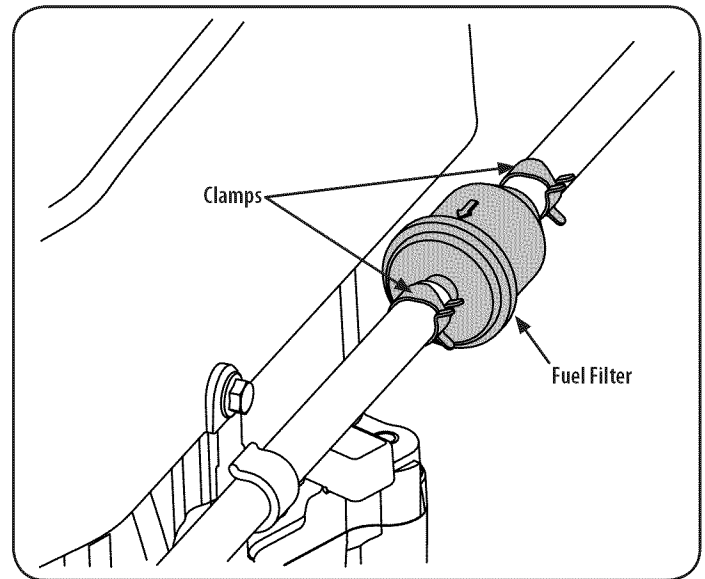

Figure 29
1. Locate the fuel filter, which is routed on the right side of the engine between the fuel tank and the engine. See Figure 29.
2. Use pliers to squeeze tabs on the clamps, then slide the clamps away from the fuel filter. Twist and pull the fuel lines off of the fuel filter. Refer to Figure 29.